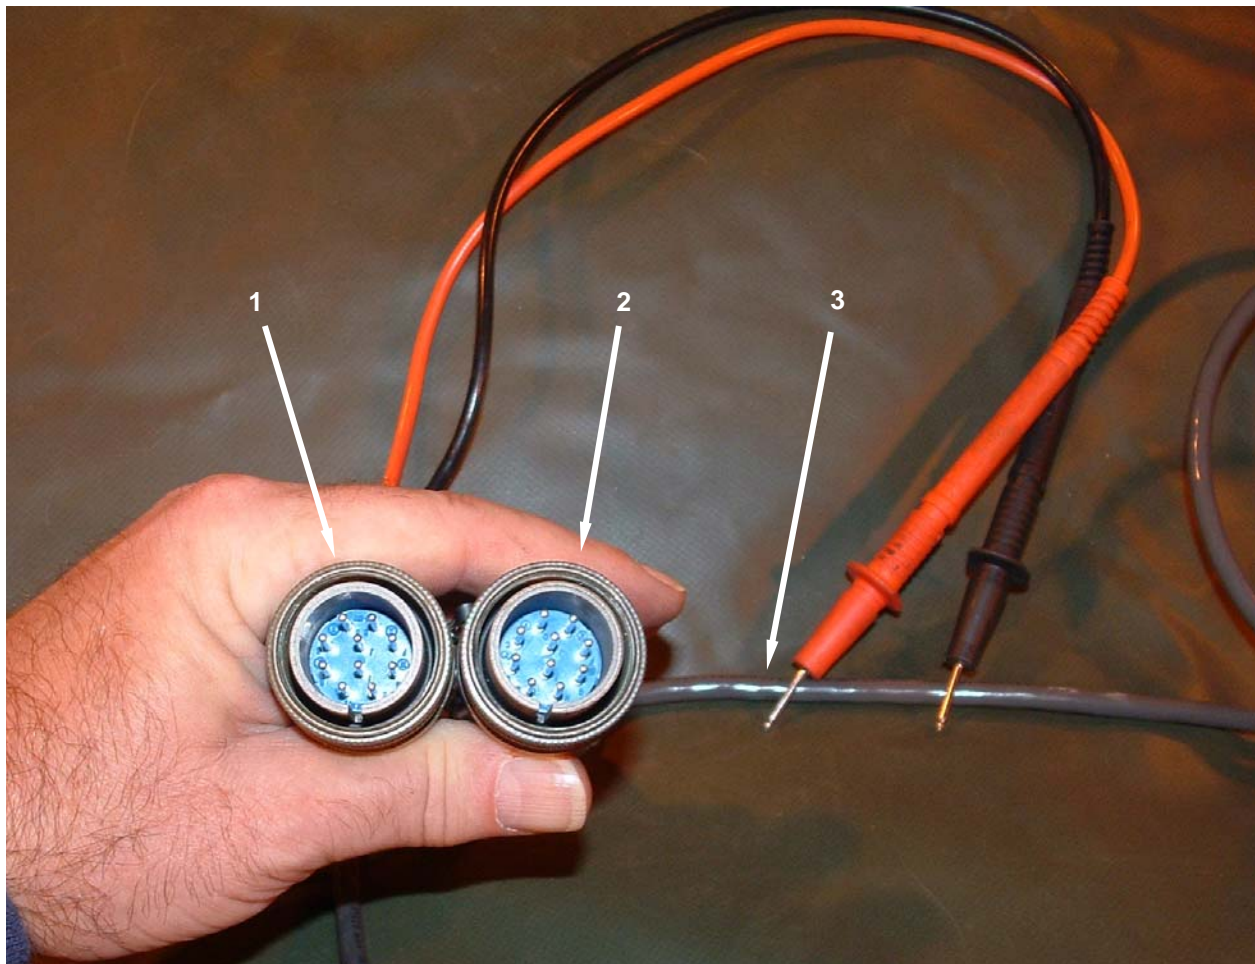

Figure 2. Test the In-Tent Controller Cable Assembly.
1. Using a multimeter, perform a continuity check from pin A at one end of the cable (**Figure 2, Item 1**) to pin A at opposite end of cable (**Figure 2, Item 2**). Repeat for all pins. Ensure that there is continuity through the cable.
2. Using a multimeter, perform a short circuit test across all terminals of the connector at one end of cable (**Figure 2, Item 1**). For example, test from pin A to pin B, A to C, A to D, etc. Followed by B to A, B to C, B to D, etc. There should not be shorts across any of the pins. If shorts exist, replace the in-tent controller assembly cable.
3. If there is a lack of continuity through the cable (**Figure 2, Item 3**) or shorts within either of the connectors, replace the in-tent controller cable assembly.